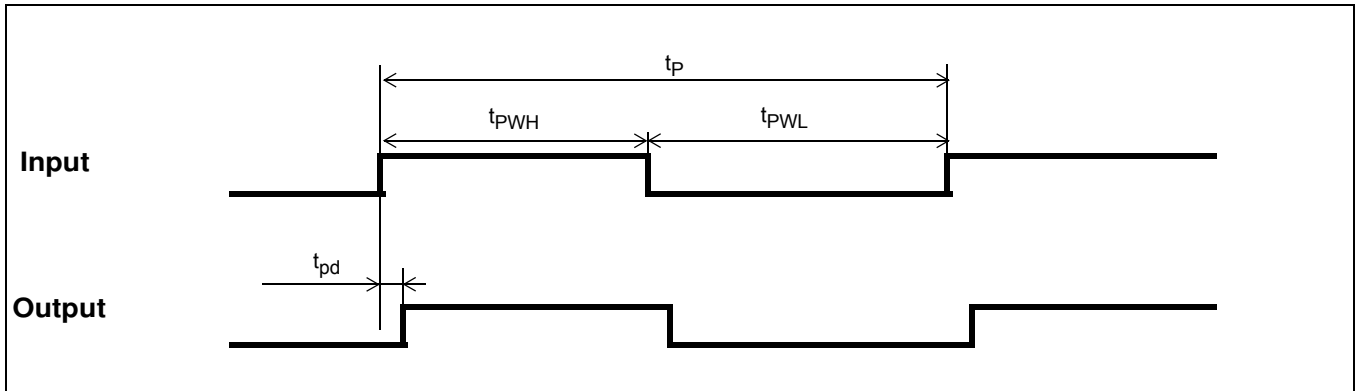

Figure 22 - Input To Output Timing
**AC Electrical Characteristics\* - Inputs and Outputs (see Figure 22) - for 2.5 and 3.3 V supplies.**